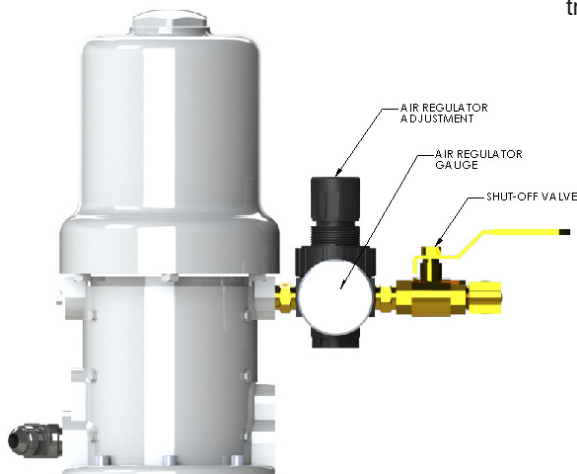

Fig. 2. FireBall Assembly
3. Check the pump regulator air pressure. The air pressure should never exceed 60 psi. (Fig. 2)
1. Check if the product tank is out of oil. If so, shut the product tank air supply ball valve (Fig. 2) off and refill the product tank. Reopen air supply ball valve.
4. Check the pump regulator air pressure. The air pressure should never exceed 100 psi. (Fig. 2)